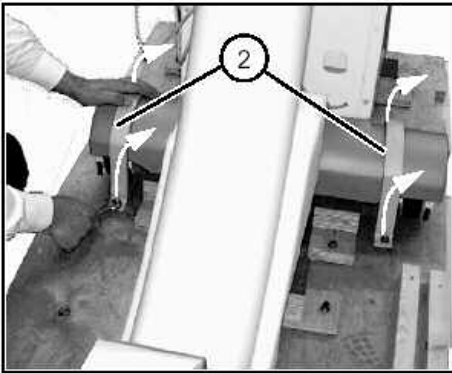

Fig. 5: Retaining clamp\_2
- Unscrew the retaining clamp (2/Fig. 5 / p. 6) on the left and right (two nuts on each side)